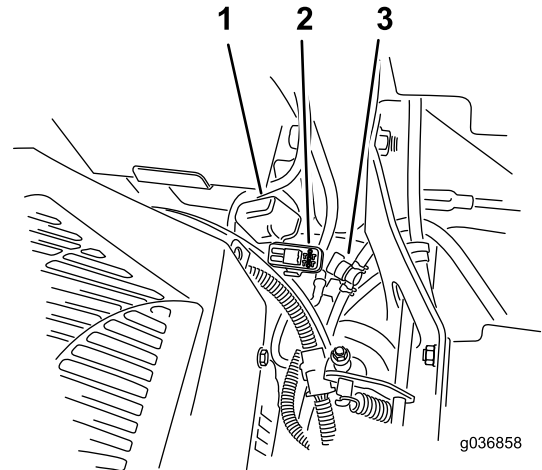

Figure 76
Note: For MyRide machines, ensure that the ground cable does not rub against the trailing arm or lower shock mount (Figure 76).
The fuses are located on the right console next to the seat (Figure 76).
2. Install a new fuse (Figure 76).